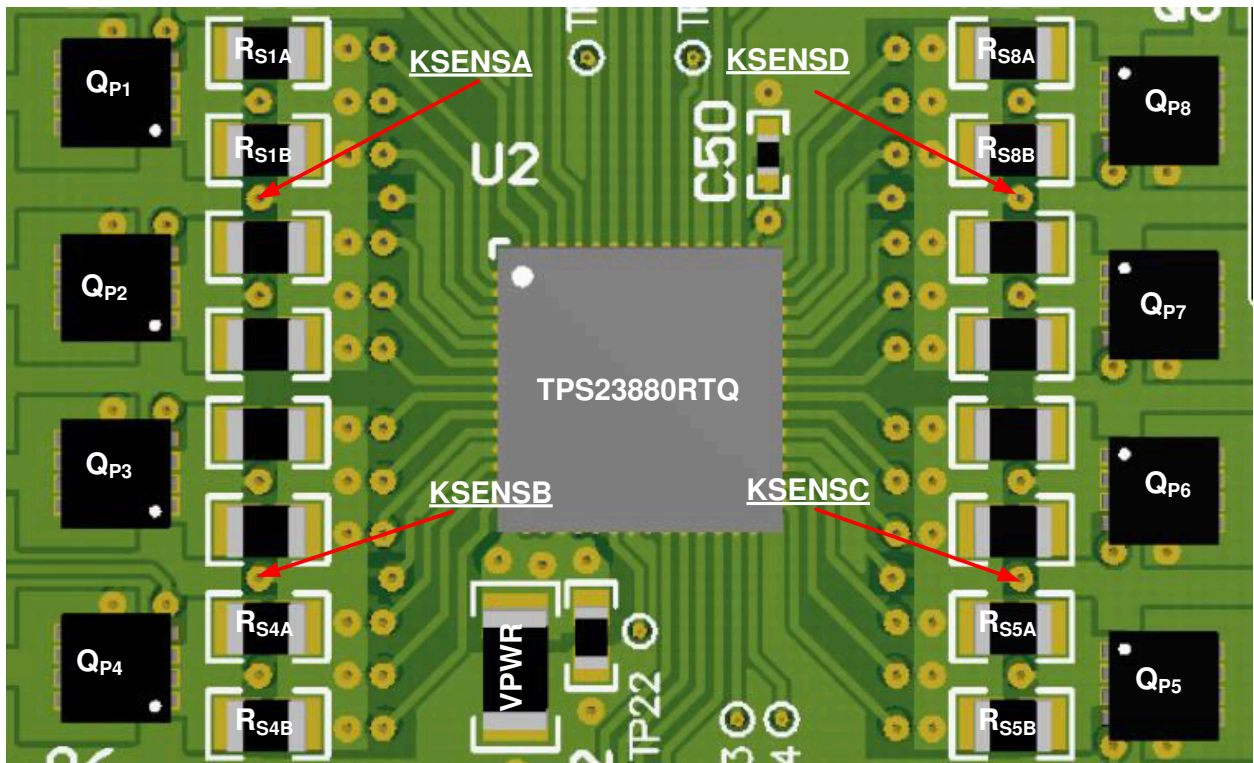

Figure 12-3. Eight Port Layout Example (Top Side)
- C_{VPWR} : Place close to pin 17 (VPWR) and connect with low inductance traces and vias according to Figure 12-3.
- C_{VDD} : Place close to pin 43 (VDD) and connect with low inductance traces and vias according to Figure 12-3.
- Q_{Pn} : Place Q_{Pn} around the TPS23880 as illustrated in Figure 12-3. Provide sufficient copper from Q_{Pn} drain to F_{Pn} .
- F_{Pn} , C_{Pn} , D_{PnA} , D_{PnB} : Place this circuit group near the RJ45 port connector (or port power interface if a daughter board type of interface is used as illustrated in Figure 12-3). Connect this circuit group to Q_{Pn} drain or GND (TPS23880- AGND) using low inductance traces.